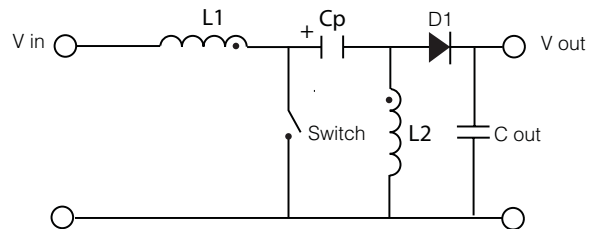

Figure 1. Simple SEPIC circuit
Figure 1 depicts a typical SEPIC circuit. During the switch (SW) ON time the voltage across both inductors is equal to  $V_{in}$ . When the switch is ON capacitor  $C_p$  is connected in parallel with  $L_2$ . The voltage across  $L_2$  is the same as the capacitor voltage,  $-V_{in}$ . Diode  $D_1$  is reverse bias and the load current is being supplied by capacitor  $C_{out}$ . During this period, energy is being stored in  $L_1$  from the input and in  $L_2$  from  $C_p$ .